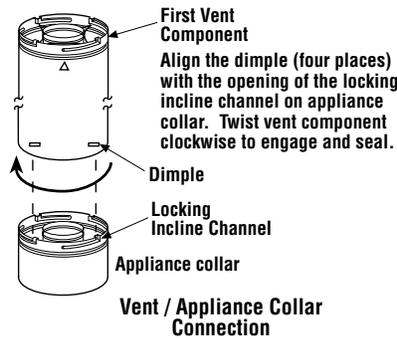

Figure 27
B. Attach vent components to appliance - Secure Vent SV4.5 direct vent system components are unitized concentric pipe components featuring positive twist lock connections (*see Figures 27 and 28*).
To attach a vent component to the appliance collar, align the dimpled end over the collar, adjusting the radial alignment until the four locking dimples are aligned with the inlet of the four inclined channels on the collar (*refer to Figure 27*). Push the vent component against the collar until it fully engages, then twist the component clockwise, running the dimples down and along the incline channels until they seat at the end of the channels. The unitized design of the **Secure Vent** components will engage and seal both the inner and outer pipe without the need for sealant or screws. If desired a #6 x 1/2" screw may be used at the joint, but it is not required as the pipe will securely lock when twisted.